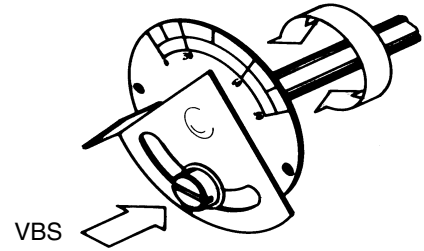

Fig. 48
- Slacken the screw VBS shown in Fig. 48 by means of a screwdriver; set the desired air flow rate by adjusting directly the damper.